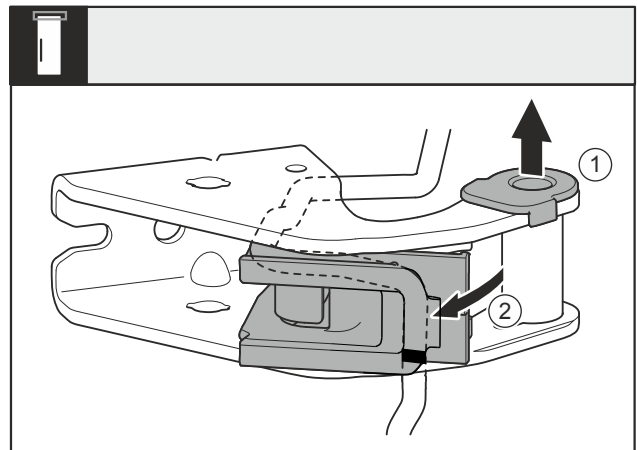

Fig. 25
- ▶ Pull out the bearing bushing Fig. 25 (1) from the guide.
- ▶ Swing out the cable bracket Fig. 25 (2).